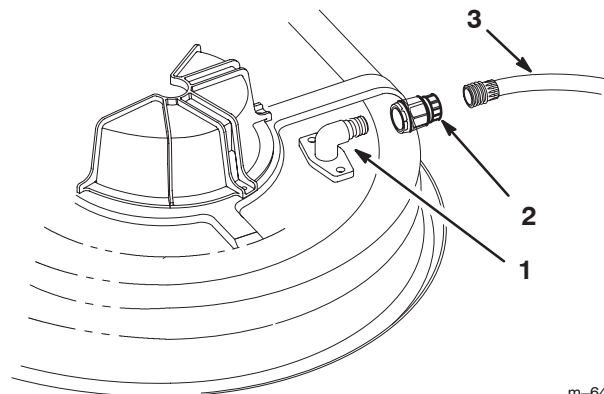

Figure 46
3. Attach the hose coupling to the end of the mower washout fitting, and turn the water on high (Fig. 46).